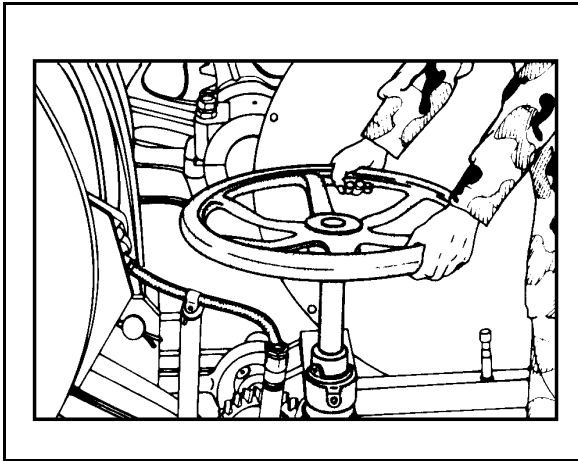

Figure 21-11. Setting Up Brake
- Make sure that the brake is set tight (Figure 21-11, page 21-16).